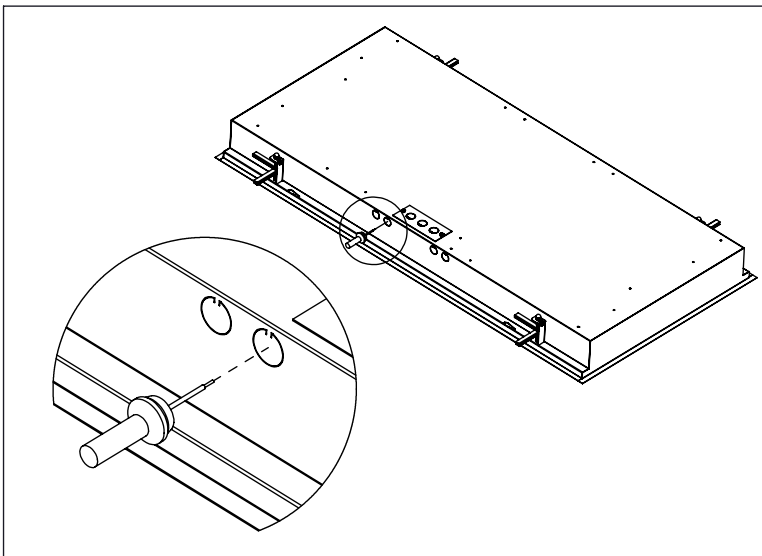

Figure 3
3. If applicable, snap Thermal Protector into place by pushing it into the open K.O. (Fig. 3).